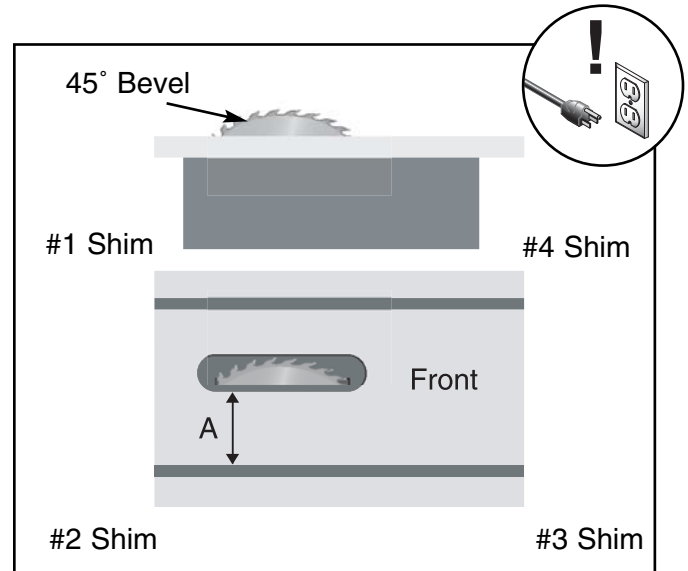

Figure 43. 45° blade parallelism measurement.
11. Refer to **Figures 43 & 44**, for shim placement. If the distance of A is shorter than B, shim(s) will need to be placed under corners #1 and #2. If the distance of B is shorter than A, shim(s) will need to be placed under corners #3 and #4. Very thin shim stock works well, just make sure they are all the same thickness, and you put an equal number under each of the two corners.